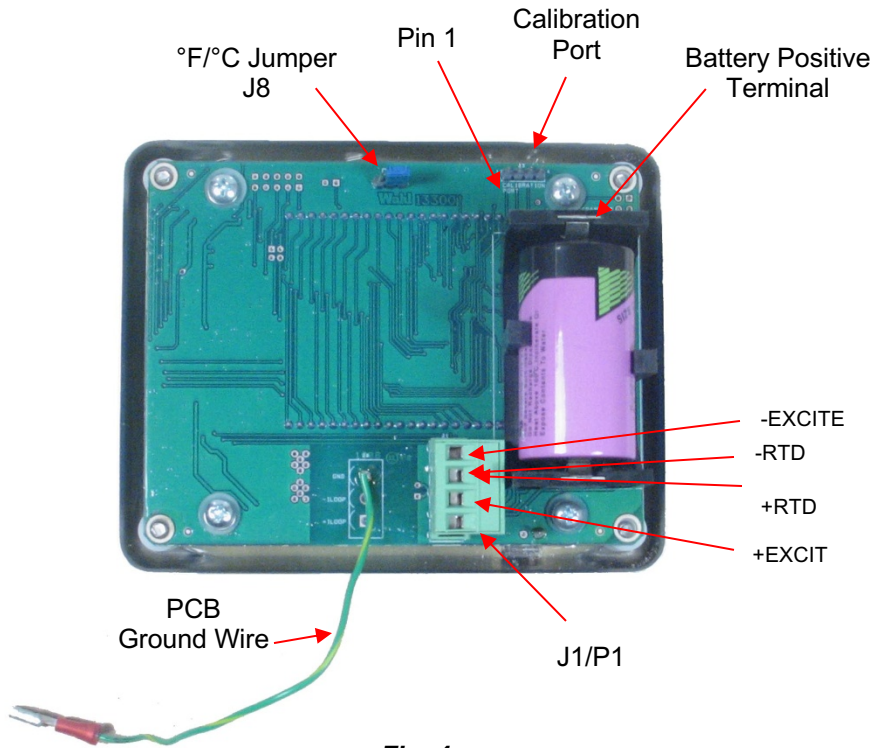

Fig. 4
- 4.2.2 Remove the 4-pin pluggable terminal-strip connector (P1) from the PCB mating connector J1 and connect probe wires as shown in the table below and in Fig. 4 and following the ferrite installation as defined in paragraph 4.3.
- 6.1 Scale Selection °F/°C – Temperature scale is user selectable via jumper J8 (Fig. 4) on the Printed Circuit Board (PCB). The scale is indicated in the upper right corner of the display (Fig. 3.)